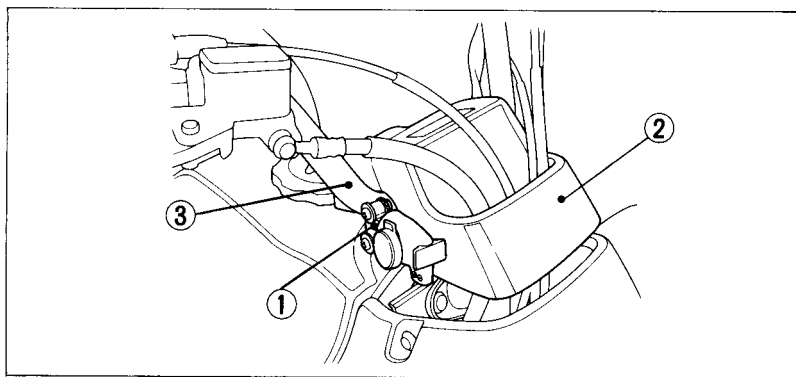

Fig. 2-29
The DC receptacle (Fig. 2-29) is attached to the right handlebar, near the handlebar cover (2). The receptacle provides 12 V DC power at a maximum of 180 watts (15 amps). If you exceed this limit, you may blow the fuse. (For information on fuses, and how to replace a fuse, see pages 115–116.)